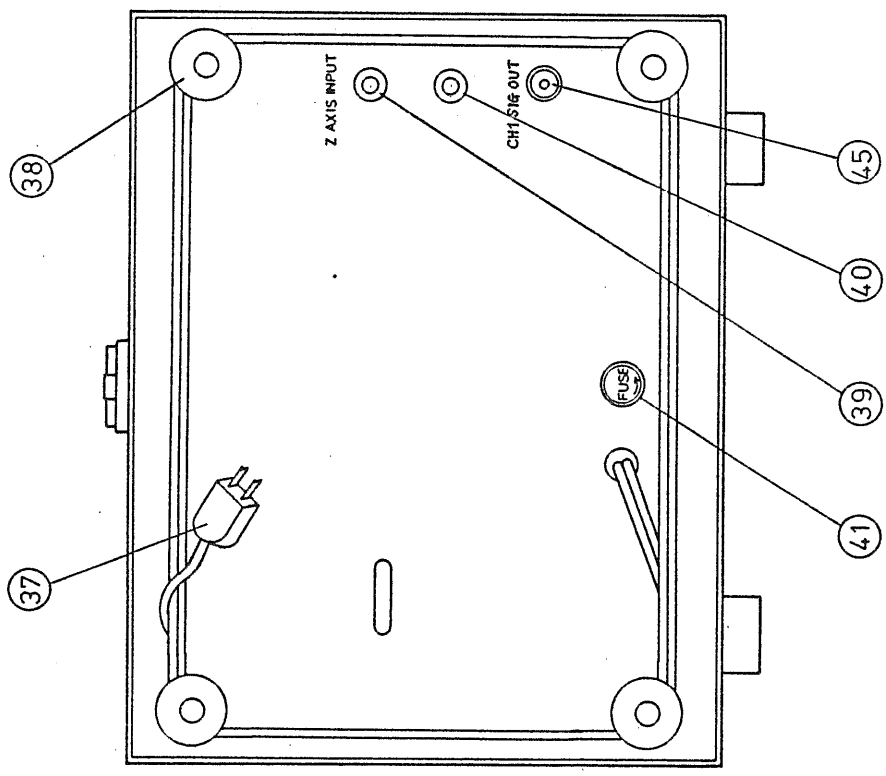

Figure 2
Disconnect the shorting bar of the external intensity modulation signal input terminal (Z-AXIS INPUT (39), see Figure 2), and apply an intensity modulation signal between Z-AXIS INPUT terminal (39) and GND terminal (40). When the intensity modulation is not used, keep the shorting bar connected.